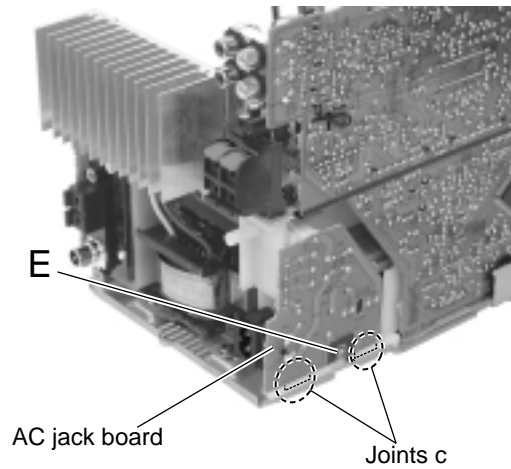

Fig.9
■ Removing the AC jack board (See Fig.9)